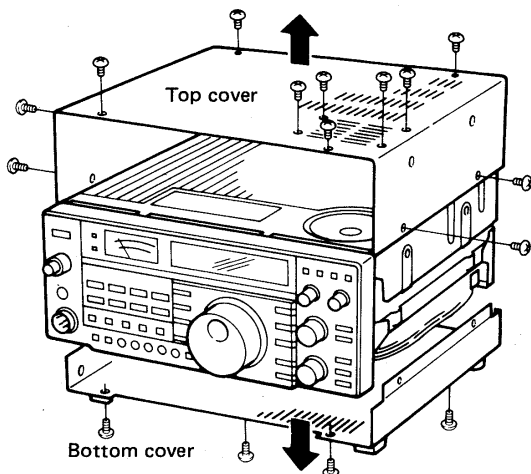

Fig. 1
1) To remove top and bottom covers, unscrew 17 screws. (Fig. 1)